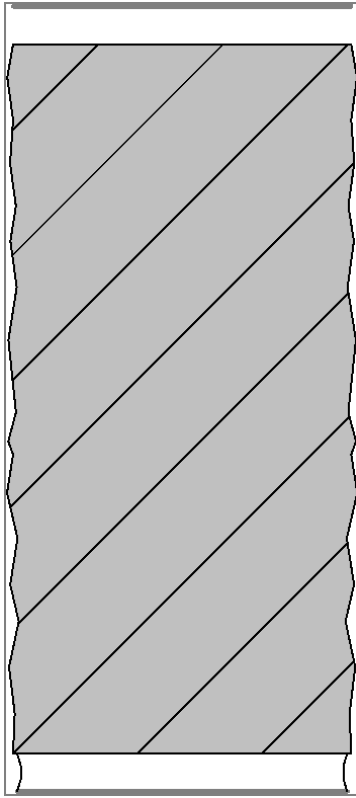

FIGURE 12.30: The finished brick
17. Press Esc. Your brick should now look like Figure 12.30.